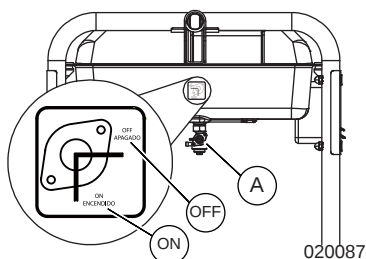

Figure 3-2. Fuel Shutoff Valve
3. See Figure 3-2. Open the fuel shutoff valve (A).
3. See Figure 3-2. Open the fuel shutoff valve.
3. Close fuel shutoff. See Figure 3-2 for gasoline and allow unit to run until the fuel in the carburetor is used up. See Figure 3-5 for LP. See Figure 2-19 for NG. (For 49 State Generator) Close appropriate fuel valve and allow unit to run until the fuel in the carburetor is used up.